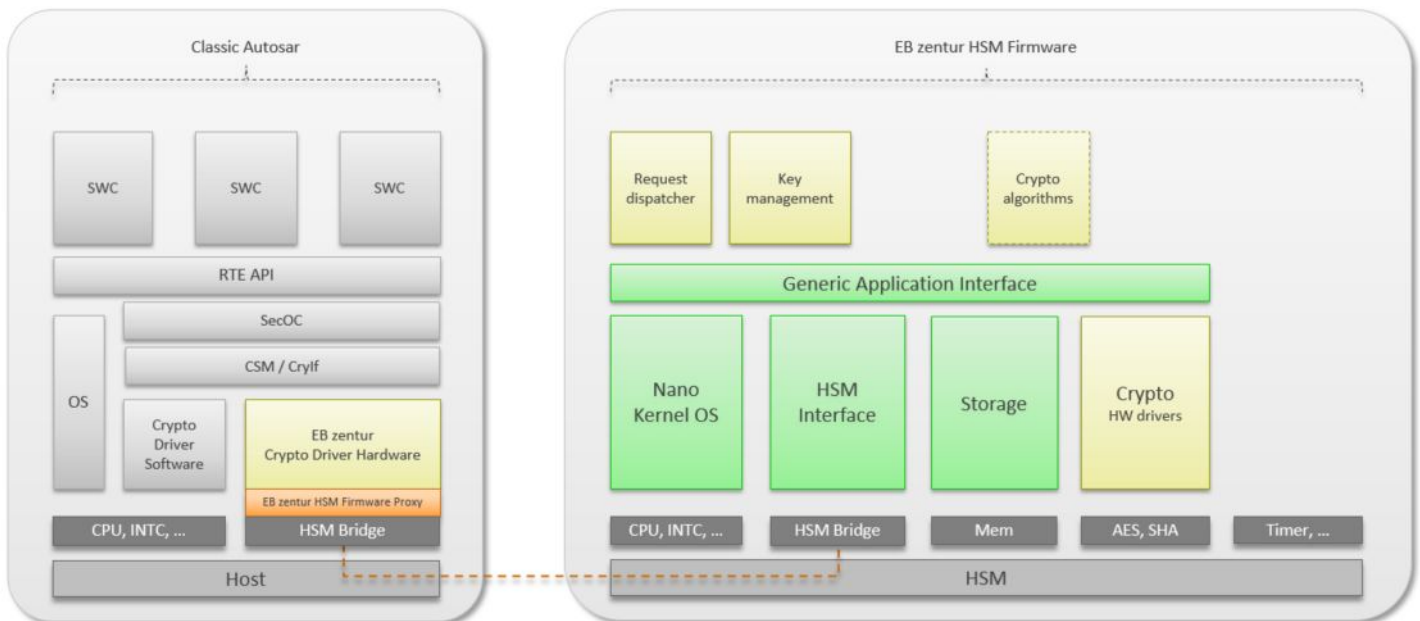

Figure 4.2. ACG 8 integration
- ▶ EB tresos AutoCore Generic 8 products (ACG8 AUTOSAR 4.3) accomplished by using a Crypto Driver hardware module, see Figure 4.2, "ACG 8 integration"